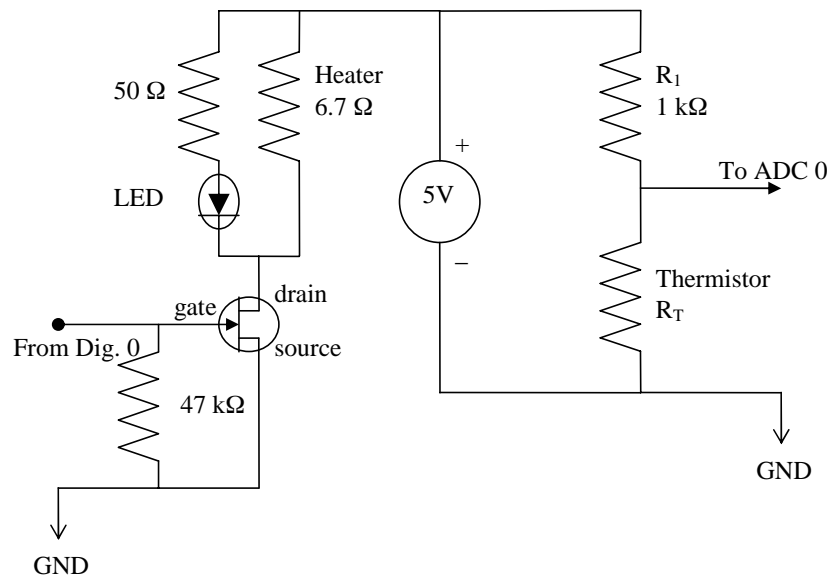

Figure 8.3: HEXFET temperature controller
Although the output ports of your ESP32 board have a range of several volts, they cannot supply much electrical current and so, in general, cannot drive external circuitry loads directly. HEXFETs are one variety of enhanced mode power FETs (Field Effect Transistors) which are particularly suited for controlling large amounts of power by using the digital signals coming out of a computer. In short, we will set up the circuit shown in Fig.8.3 that uses a HEXFET to turn on or off a heater to regulate the temperature of our block.
1. Set up the circuit shown in Fig. 8.3. The HEXFET will act like the push button switch you used earlier, but it will be controlled by a digital output port of your ESP32. When a HI signal is applied to the gate of a HEXFET, the device conducts current like a closed switch; when a LO
NOTE: you may need to use two separate power supplies, instead of a single one, as shown in Fig. 8.3. This is because: if the HEXFET is drawing a lot of current, then you may inadvertently load down the power supply, causing its voltage to drop. This, in turn, will change your thermistor reading.